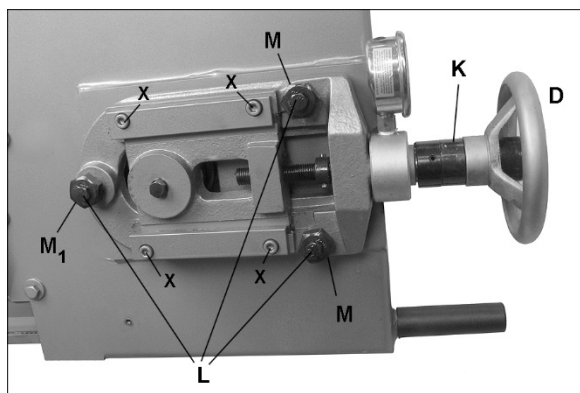

Figure 7-3: blade tension and tracking
Refer to Figure 7-3.
Blade tension has been set by manufacturer at approximately 1800 kg/cm² (25,000 psi) for the supplied blade but should be verified by the operator. Turn handwheel (D, Figure 7-3) clockwise; if collar (K) slips out of position, then blade is properly tensioned. Continue turning handwheel until collar re-engages. NOTE: Simply turn handwheel, do not press on it.
If tension mechanism will not move blade, loosen and then re-tighten socket head cap screws on gibs (X, Figure 7-3).
4. Loosen center locking screws (L, Figure 7-3) in all three hex adjustment screws (M) on tensioning mechanism.